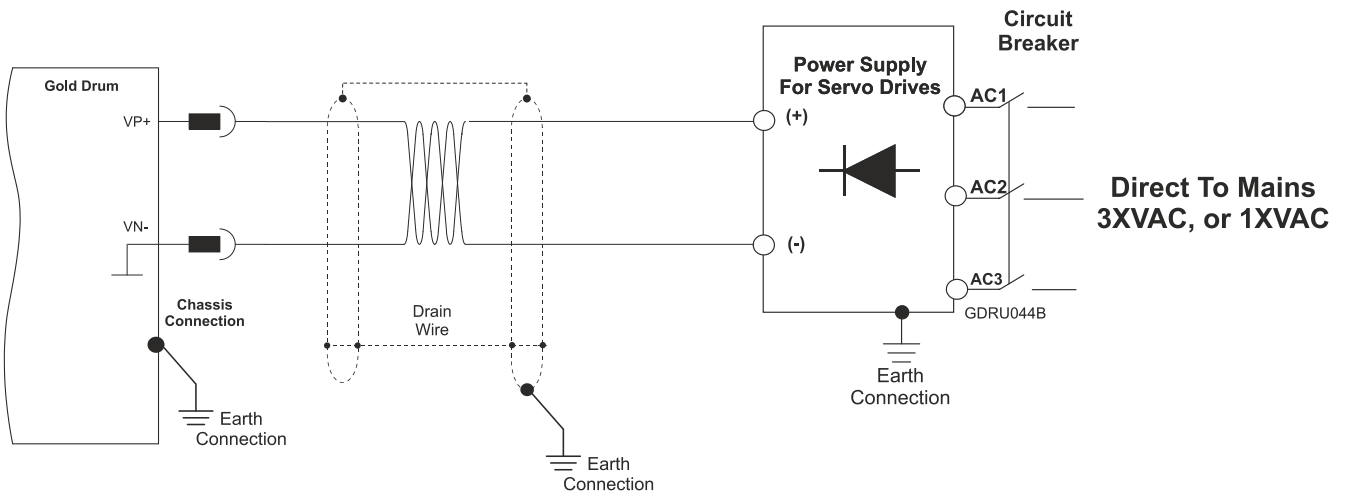

Figure 11: Non-Isolated from the Mains DC Power Supply connection
- In the **Non Isolated** Connection (direct to Mains) the VN- terminal **MUST NOT** be connected to "Earth Connection"(PE) (Figure 11).